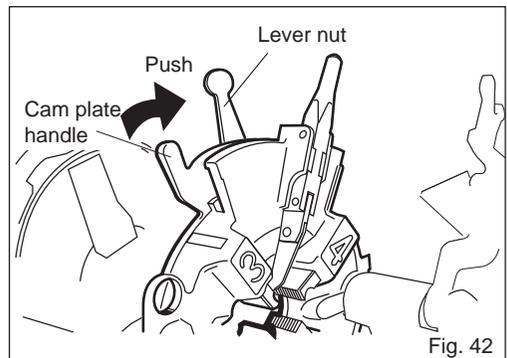

Fig. 42
- Fit the appropriate Die-head as shown in Fig. 42.
- Push the Cam plate handle forward to set the Auto-open lever then set the thread size by fitting the Lever nut to the appropriate position. (Fig. 42)